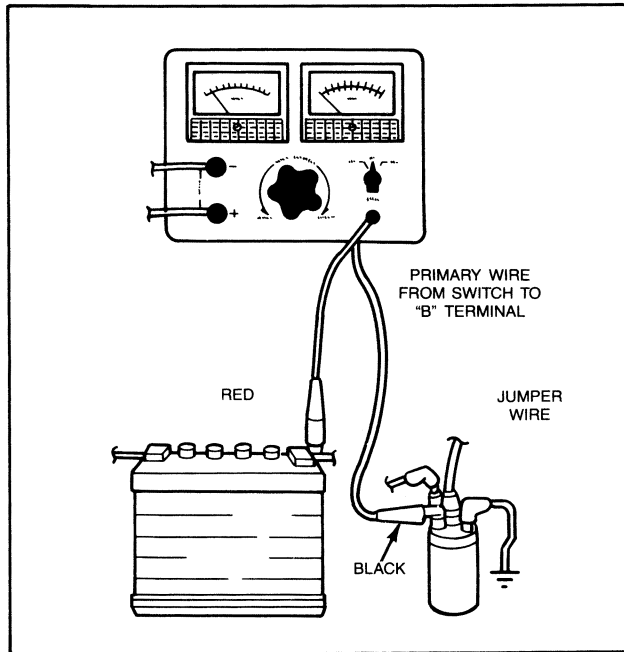

FIG. 5 Battery-to-Coil and Starting Ignition Circuit Test
1. Connect the voltmeter leads as shown in Figure 5.